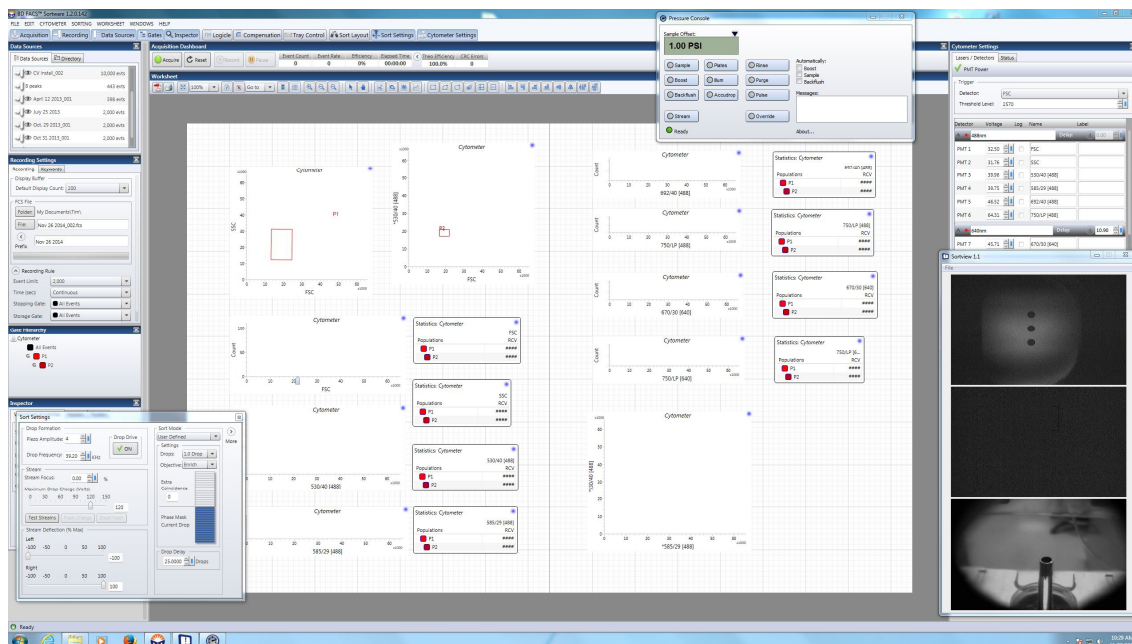

Figure 8. The Software with the Ultra Sphero Rainbow workspace loaded.
Close the sliding nozzle access door. Open the shutters for both lasers and check that they are aligned with the appropriate pinhole. Set the laser delay for the 640nm laser to 10.9 in the 'Cytometer Settings' pane of the Software (Figure 8).
- 5.7.5 Turn on the drop drive in the 'Sort Settings' pane of the Software and set the Piezo amplitude to 4.0. Under the File pull down menu, select 'Restore Workspace'. In the dialogue box that appears, navigate to 'Tim' and select Ultra Sphero Rainbow from the list. Deselect the Fluidics Setup checkbox to prevent overwriting the optimized daily sort settings. The Software should now look like Figure 8. At this point the stream should be run for at least ½ hour. If sorting, the stream should be run for an hour before starting calibrations.